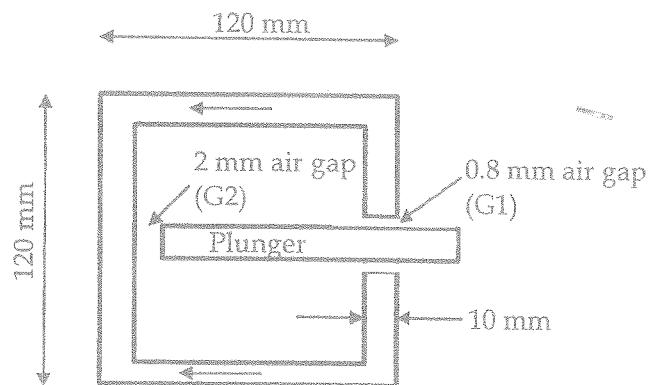

Figure Q1 (a).
- Q1 a) Figure Q1(a) shows a part of an electromechanical actuator (not in scale). This actuator has a square cross-section and the thickness into the page is 20 mm. The arrows shown in upper and lower parts of the core shows the direction of applied flux using two separate coils wound around upper and lower arms. Each coil consists of 75 turns and carries 5 A current. Use symbols G1 and G2 to represent the air gaps as shown in figure Q1(a). G1 air gap exists at both sides of the plunger as shown and has 0.8 mm gap at each side. Assume that the core and plunger are made of ideal core material and the permeability of free space and air is assumed to be  $\mu_0 = 4\pi \times 10^{-7} \text{ Hm}^{-1}$ .